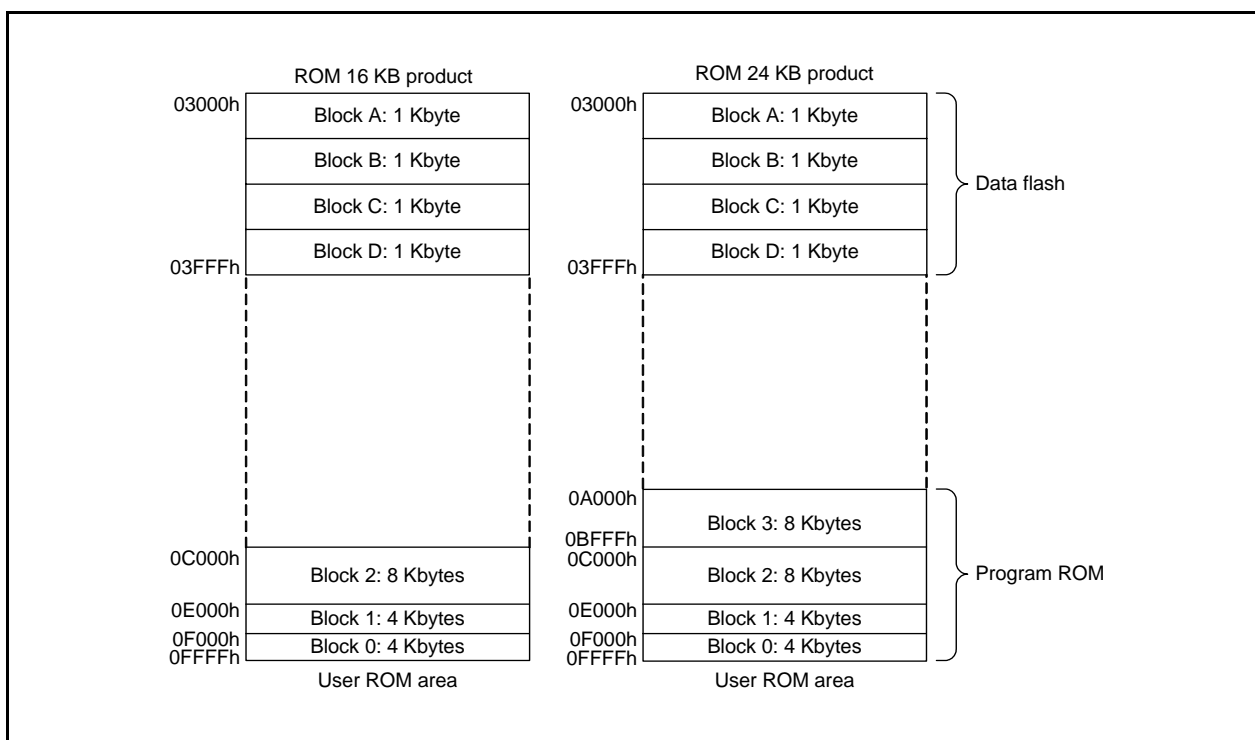

Figure 34.1 R8C/36M Group Flash Memory Block Diagram (1)
- The number of blocks and block division vary with the MCU. Refer to **Figures 34.1 and 34.2 R8C/36M Group Flash Memory Block Diagram** for details.
Figures 34.1 and 34.2 show the R8C/36M Group Flash Memory Block Diagrams.